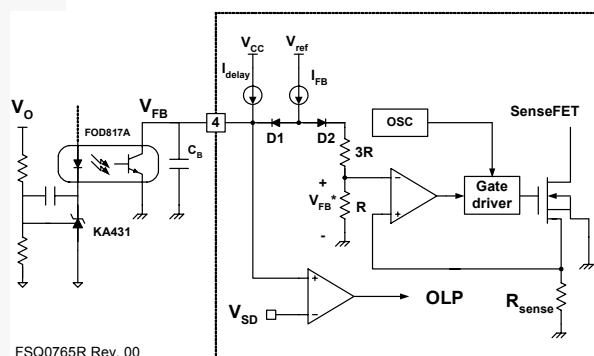

Figure 23. Pulse-Width-Modulation (PWM) Circuit
2. Feedback Control: FPS employs current-mode control, as shown in Figure 23. An opto-coupler (such as the FOD817A) and shunt regulator (such as the KA431) are typically used to implement the feedback network. Comparing the feedback voltage with the voltage across the R_{sense} resistor makes it possible to control the switching duty cycle. When the reference pin voltage of the shunt regulator exceeds the internal reference voltage of 2.5V, the opto-coupler LED current increases, pulling down the feedback voltage and reducing the duty cycle. This typically happens when the input voltage is increased or the output load is decreased.
2.1 Pulse-by-Pulse Current Limit: Because current-mode control is employed, the peak current through the SenseFET is limited by the inverting input of PWM comparator (V_{FB}^*), as shown in Figure 23. Assuming that the 0.9mA current source flows only through the internal resistor ($3R + R = 2.8k$), the cathode voltage of diode D2 is about 2.5V. Since D1 is blocked when the feedback voltage (V_{FB}) exceeds 2.5V, the maximum voltage of the cathode of D2 is clamped at this voltage, clamping V_{FB}^* . Therefore, the peak value of the current through the SenseFET is limited.